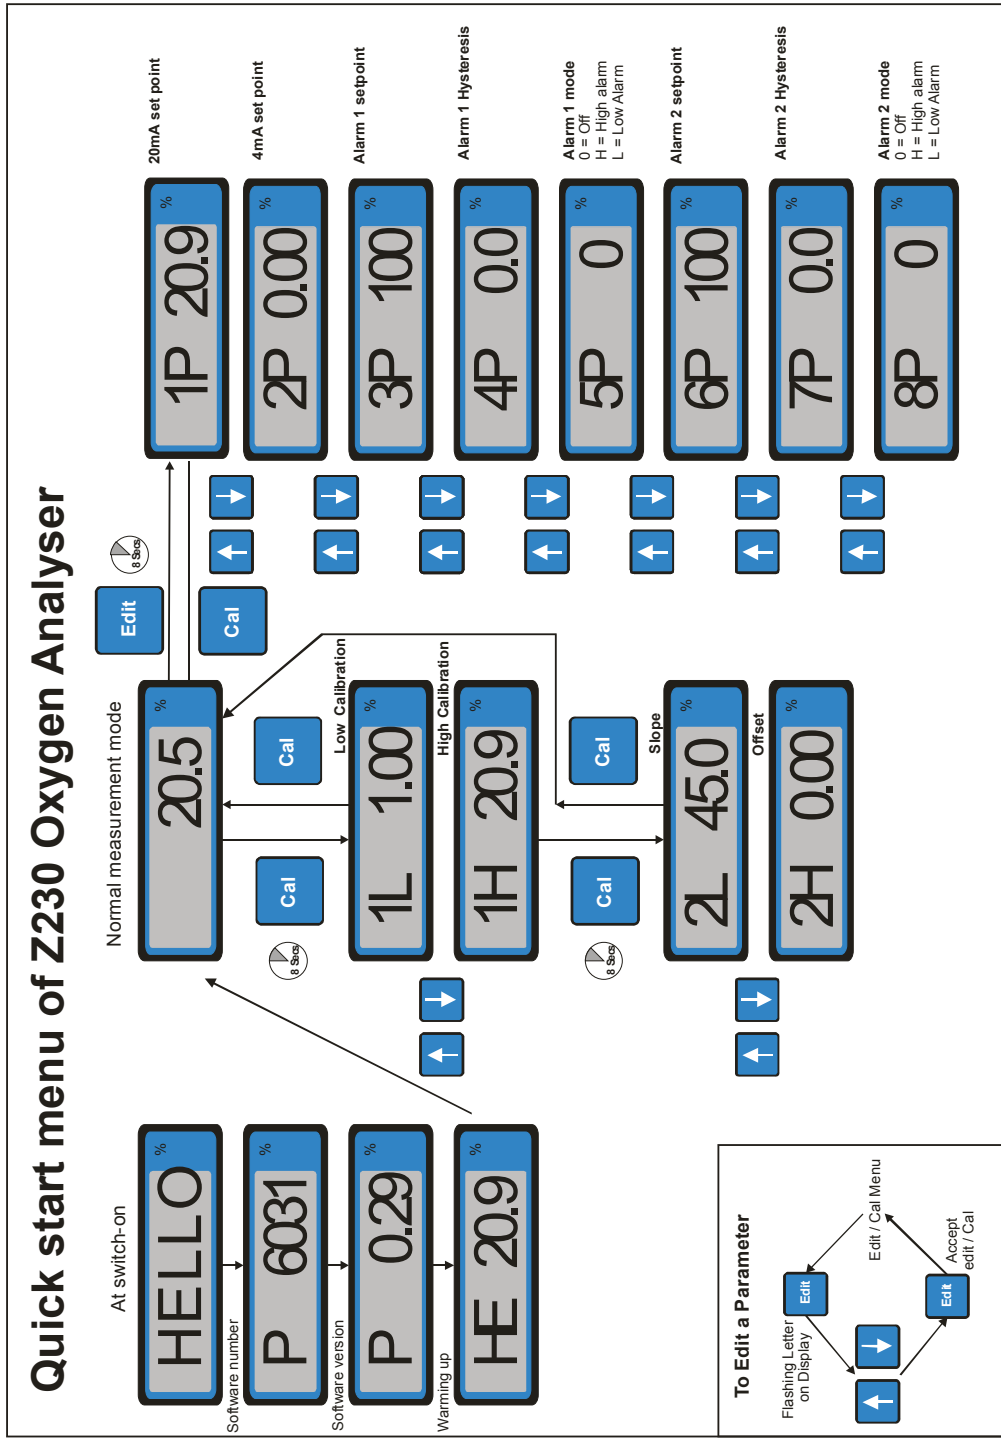

Figure 3: 130 series menu
**NOTE:** See figure 3
**NOTE:** see Figure 3